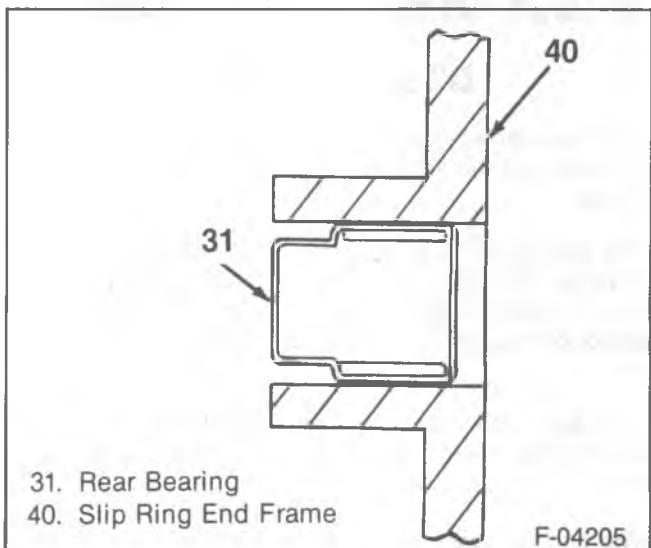

Figure 15—Slip Ring End Frame Bearing
- 1. Bearing (31).
- Press the bearing flush with the outside of the end frame (figure 15).